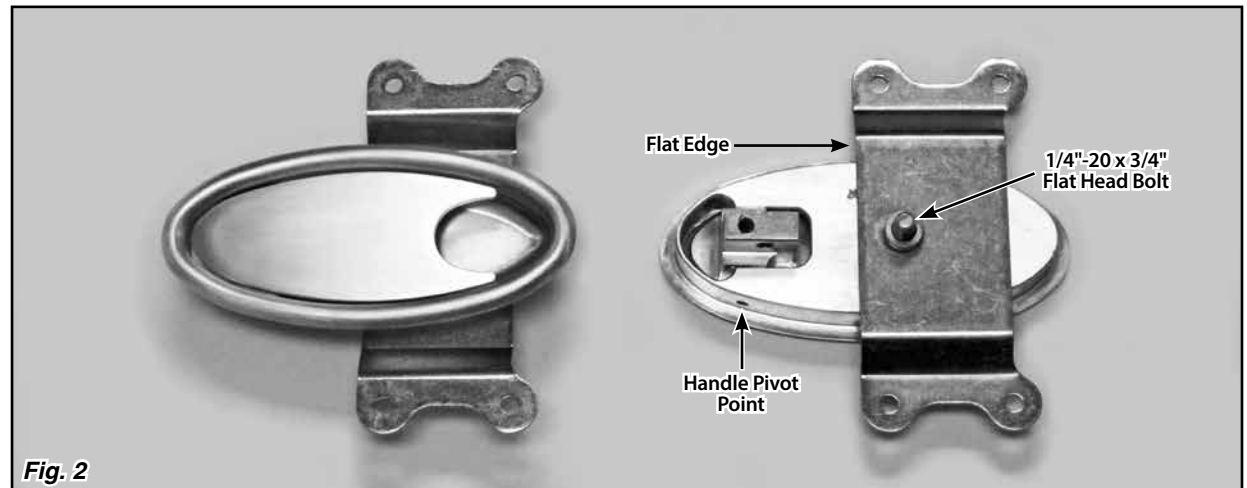

Fig. 2
Step 5: Position the interior door panel on the door. Insert the door handle into the hole, and install the provided 1/4"-20 x 3/4" flat head bolt through the door handle and into the back plate. Tighten using a 5/32" ball-end Allen wrench. **Fig. 2**